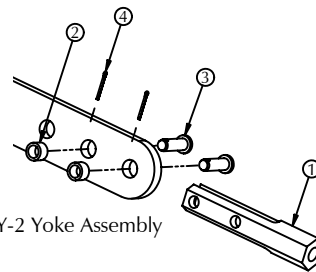

Figure 2: Y-2 Yoke Assembly
1. Assemble the Y-2 yoke assembly on the end of the PPI arm as shown in figure 2.